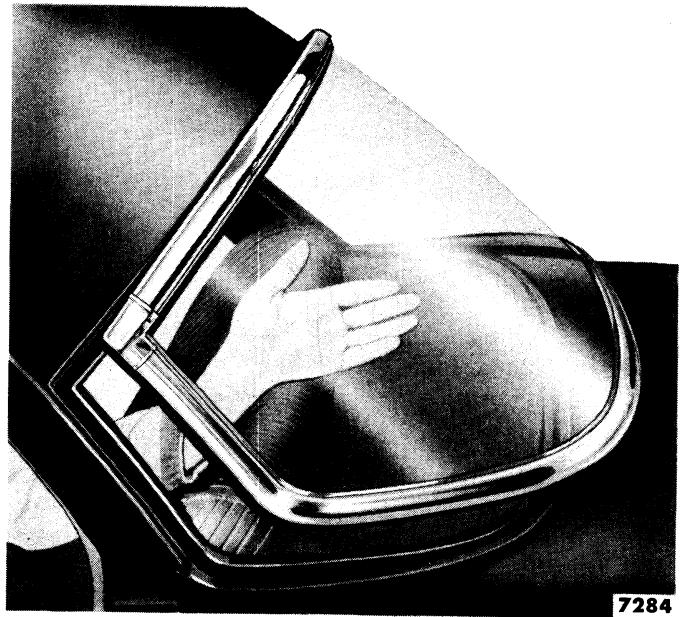

Fig. 40—Rear Window Removal
(1) **REMOVAL.** From inside the car, apply pressure with the hand against a corner of the rear window, as shown in fig. 40, until the weatherstrip begins to roll off the body flange. Moving toward the opposite end, continue to apply pressure until the weatherstrip is completely off the body flange.